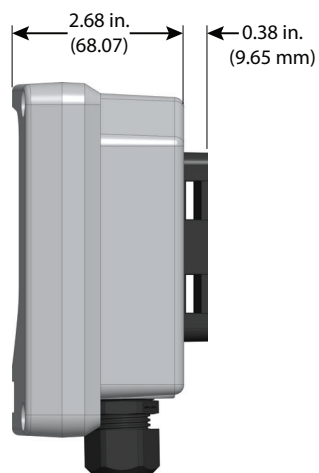

Figure 2: Dimensions
- See *Figure 2 on page 6* for enclosure and mounting dimension details. Allow enough room for door swing, maintenance and conduit entrances.